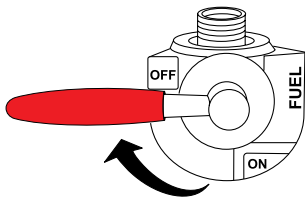

Figure 32. Fuel Tank Valve Lever (OFF)
1. Place the fuel tank ON/OFF valve lever (Figure 32) in the OFF position.